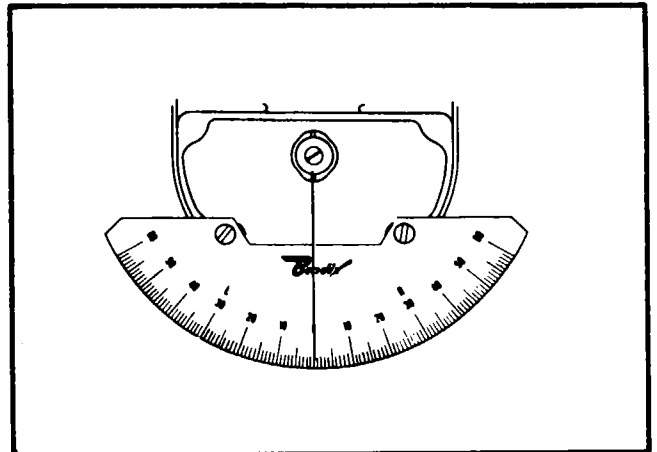

Figure 12-9B. Template and Pointer
- d. Attach timing template to breaker compartment as shown in figure 12-9B, using 8-32 screws 1/4 inch long.